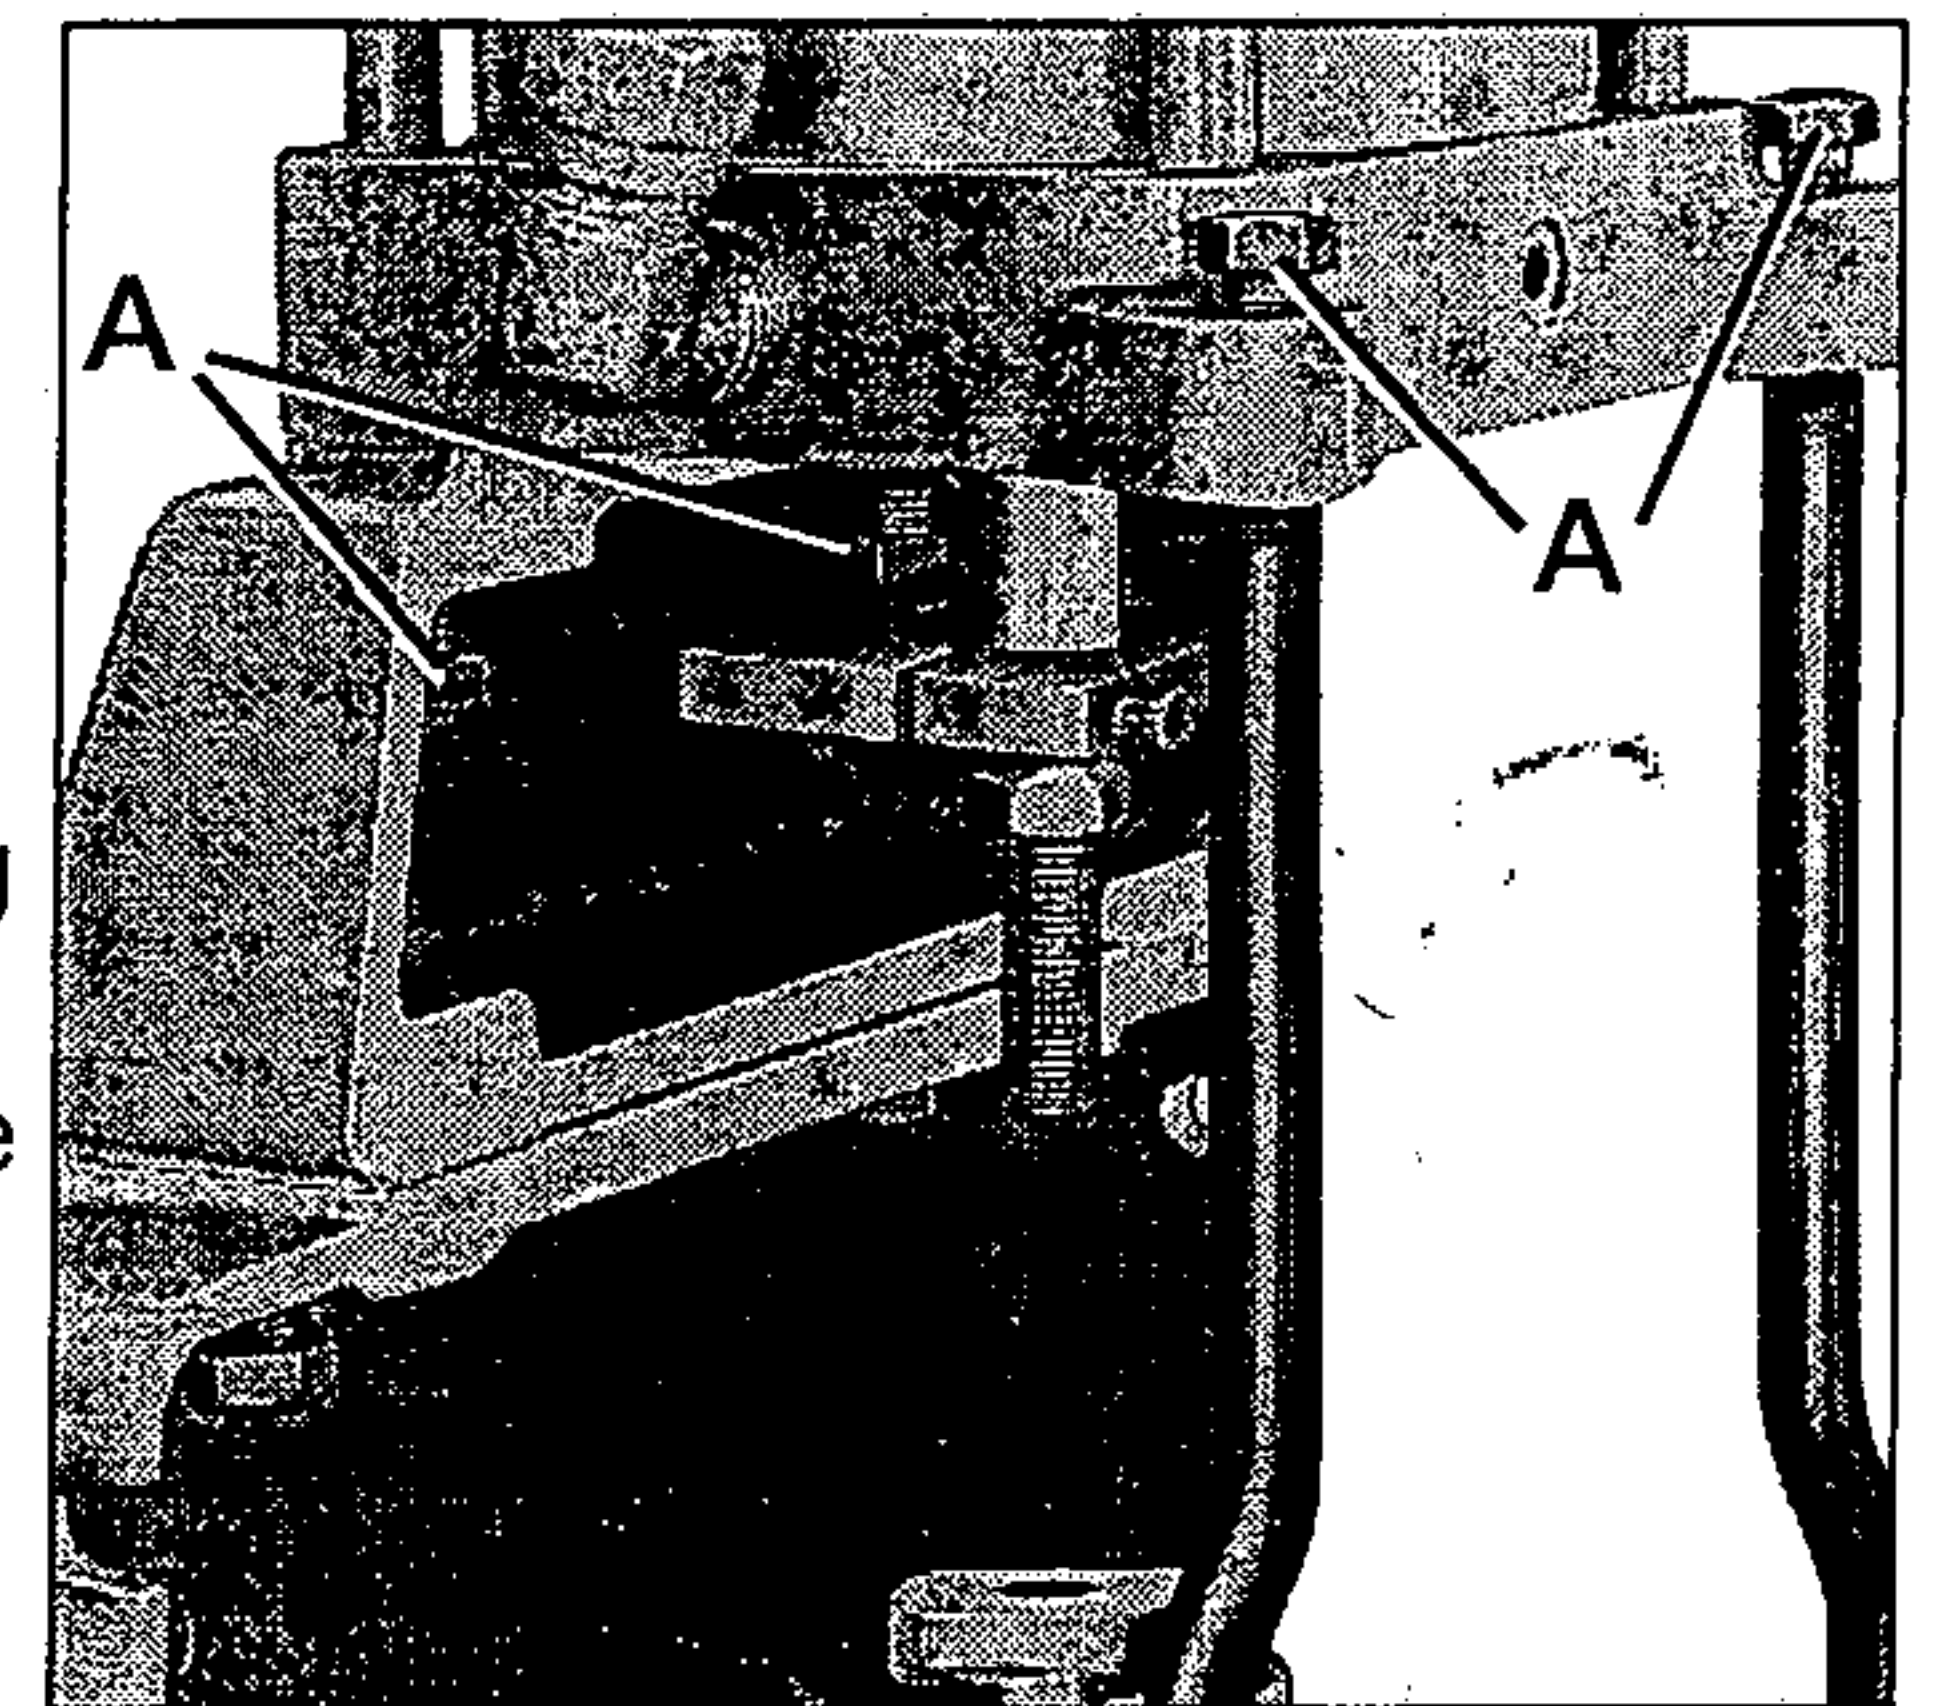

Figure 4
8. With piston rod at top of stroke - figure 4, place air feed assembly on top of cylinder mounting support and support rods.
9. Start the four mounting screws (A).